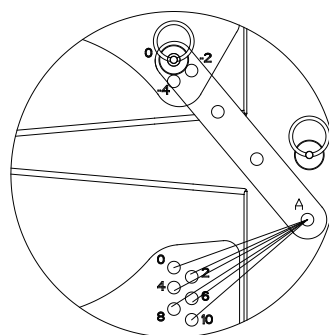

Figure 1 ($0^{\circ} \sim 10^{\circ}$ adjustment)
1) $0^{\circ} \sim 10^{\circ}$ adjustment: insert the pin into 0 hole at B, and insert into the relative hole at A (refer to figure 1), e.g. if you need to adjust to 8 degree, insert into 0 hole at B, and 8 degree at A.